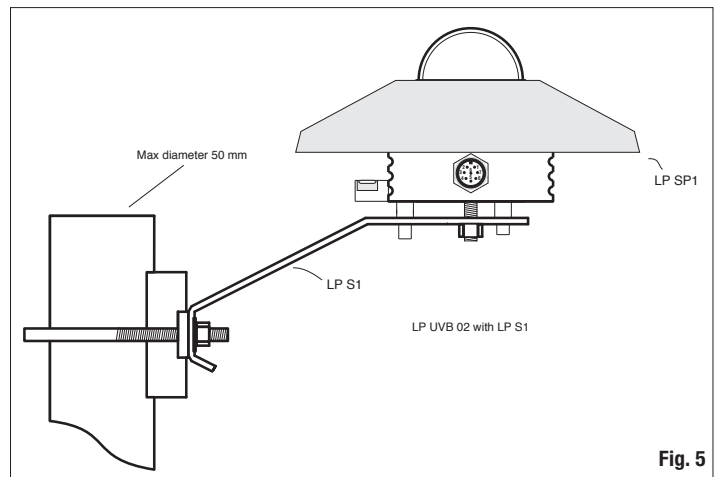

Fig. 5
- The LP S1 mounting kit (Fig. 5), supplied on demand as an accessory, allows an easy mounting of the radiometer on a mast. The mast maximum diameter shall not exceed 50 mm. The operator shall take care that the mast height does not exceed the radiometer plane to avoid measurement errors caused by any reflection or shadow of the mast itself. To fix the radiometer to the mounting bracket, remove the shade disk loosening the three screws, fix the radiometer and mount the white shade disk again.